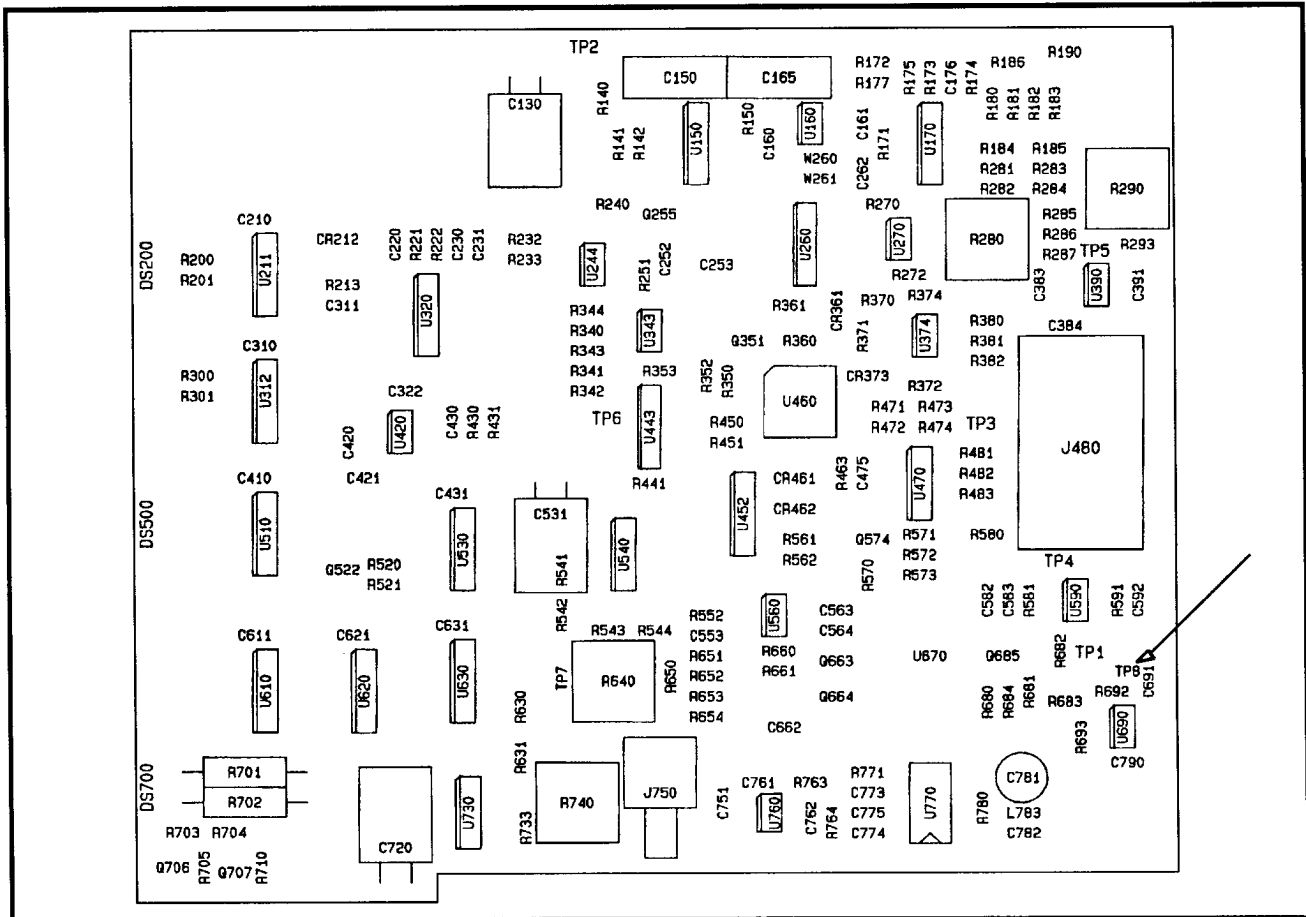
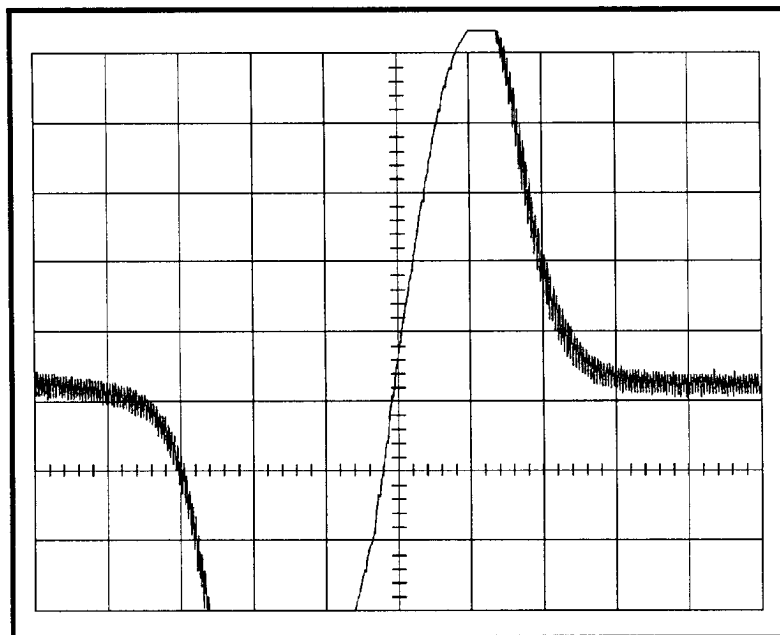

Figure 4-20. Location of TP8 on the Sweep board.
Figure 4-21. Typical FM adjustment waveform.
- (1) Connect the detector test cable from J103 on the rear of the instrument to TP8 on the Sweep board. See Figure 4-20 for the location of TP8 (feed-through hole).
(3) Enable the Calibrator by pressing INPUT 9.
(4) Center the signal by pressing CTR MEAS/TRKG.
(5) Enable external video by pressing DSPL 7. This key stroke sequence also puts the instrument into zero span.
(6) Press ZERO SPAN to disable zero span.
(7) Disconnect the 110 MHz IF cable from J750 on the Sweep board.
(8) Adjust the R740 (FM Video Offset) on the Sweep board (Figure 4-20) to bring the horizontal line to center screen.
(9) Reconnect the 110 MHz IF cable to J750 on the Sweep board.
(10) Adjust C781 on the Sweep board (Figure 4-20) to bring the left edge of the waveform to the center vertical graticule line (± 0.5 minor division). See Figure 4-21.
(11) Remove the detector test cable.
(12) Connect a FM video signal to the RF IN.
(13) Tune the spectrum analyzer to an FM visual carrier.
(14) Set FM (Satellite) video signal parameters by pressing DEMOD/TG 9 and selecting SATELLITE VIDEO DETECT MODE, NEGATIVE SYNC POLARITY, and POSITIVE VIDEO POLARITY. Press any menu button to exit the menu.
(15) Set the peak carrier level at the top graticule line.
(16) Enable the FM video mode by pressing DEMOD/TG 3, and set the LEVEL control for minimum flicker in the displayed picture.
(17) Adjust R740 on the Sweep board for best contrast in the picture.
(18) Initialize instrument settings by pressing UTIL 0. If user-defined power-up settings exist, the instrument will recall those settings. If no user-defined power-up settings exist, the instrument will recall factory default power-up settings.